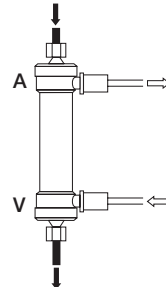

Fig. 3
- 5) Connect the dialysate lines to the dialysate ports so that the dialysate flows countercurrently to the blood flow. Remove any air bubbles and rinse the dialysate side with dialysate flowing at about 500 mL/min. (Fig. 3) Let the dialysate flow for at least 5 minutes. Avoid any ultrafiltration during this procedure.